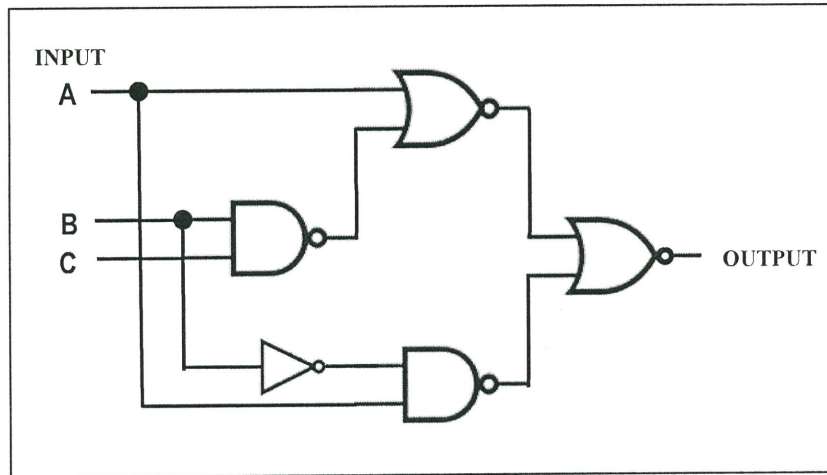

Figure Q4
- (b) Analyze the logic circuit as shown at **Figure Q4** to simplest forms using Boolean algebra expression.